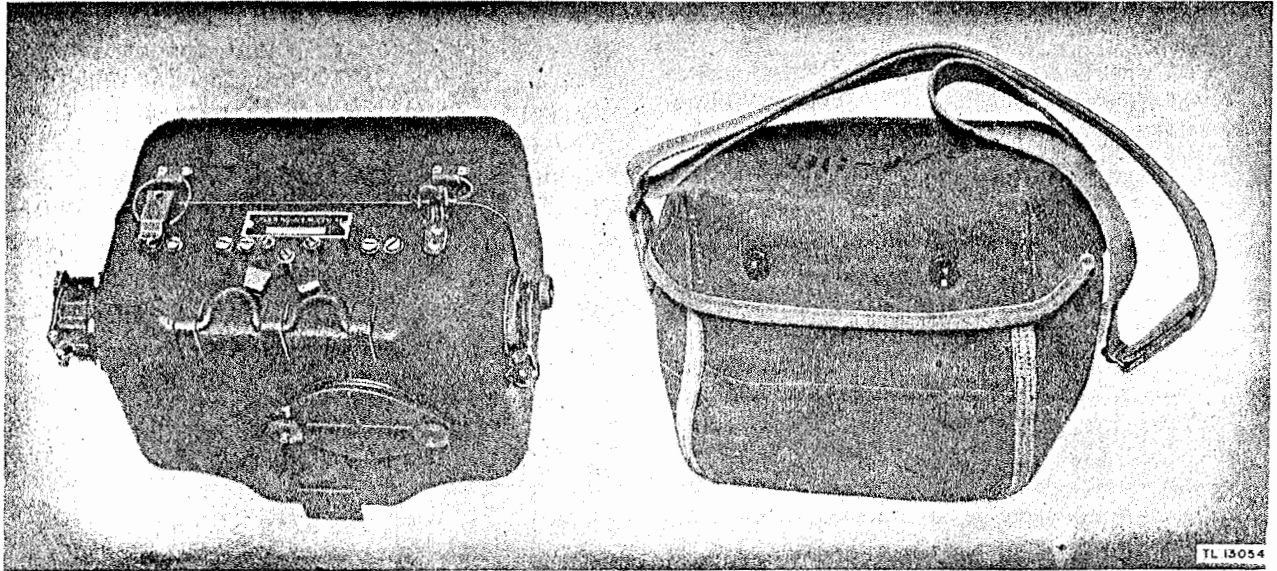

Figure 4. Generator GN-58- (*) and Bag BG-175.
c. CARRYING BAGS (figs 4, 5, 6, and 7). Four carrying bags are provided for transporting the equipment in the field when using the hand generator as the source of supply. The carrying